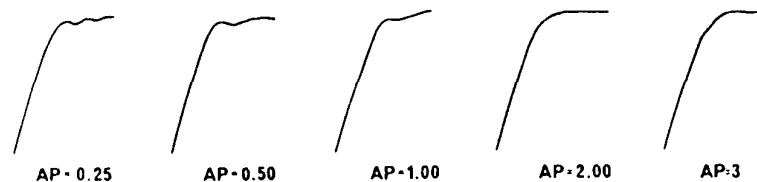

Figure 5-4
8. To set the Approach Control parameter, observe the rise of the measured temperature on system start-up as it warms up from cold. If the measured temperature overshoots the setpoint, increase the Approach Control parameter by one (1) setting. If, on the other hand, the measured temperature approaches the setpoint slowly with no overshoot, reduce the Approach Control parameter by one (1) setting. Figure 5.4 shows various start-up responses for a system with the same PID settings but with different Approach Control parameter settings.